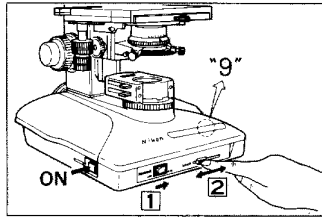

Fig. 3-1
- 1) Turn the lamp on by setting the main switch to ON. Set the lamp brightness indicator to "9" using the brightness adjuster or by turning the PHOTO voltage switch to ON (Fig. 3-1).